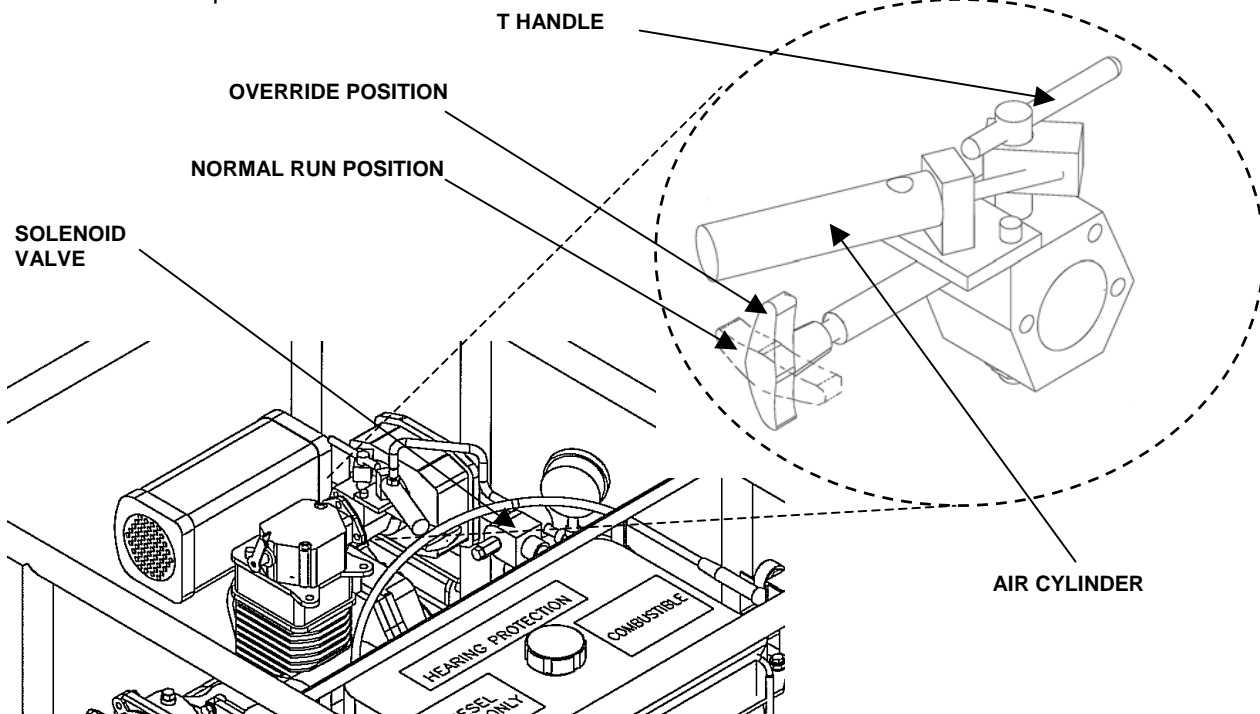

Figure 22. Operation of the Manual Override.
3. For normal operation, ensure that the manual override handle is in the horizontal position. See Figure 22.